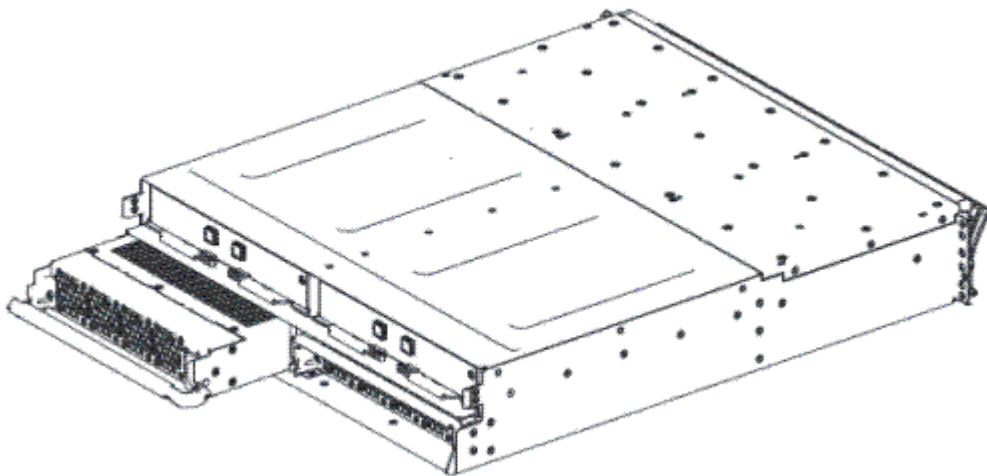

Figure 106. Removing the power supply unit from the left side of the expansion enclosure
5. Using the handle, gently slide the power supply out of the enclosure, as shown in Figure 106 on page 158.